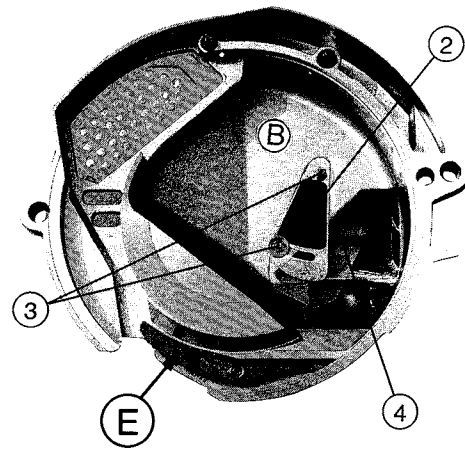

Fig. 35
**2-Low position (fig. 35) For Small Seeds**